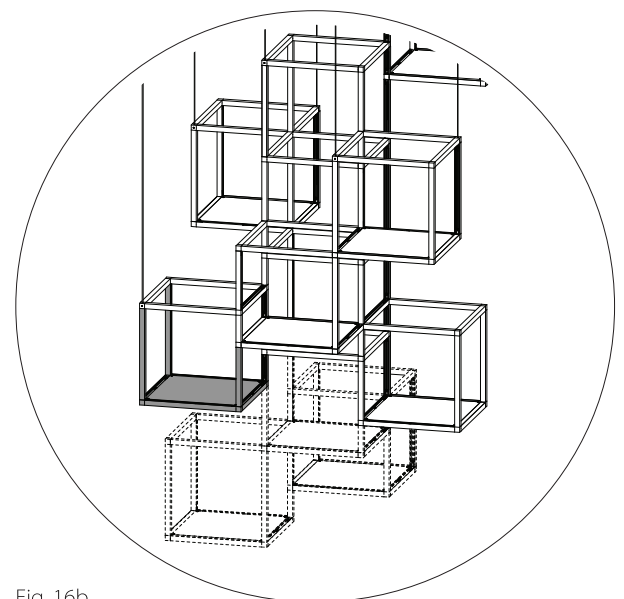

Fig. 16b
- 14c. Section as part of whole assembly shown in Fig. 16b.